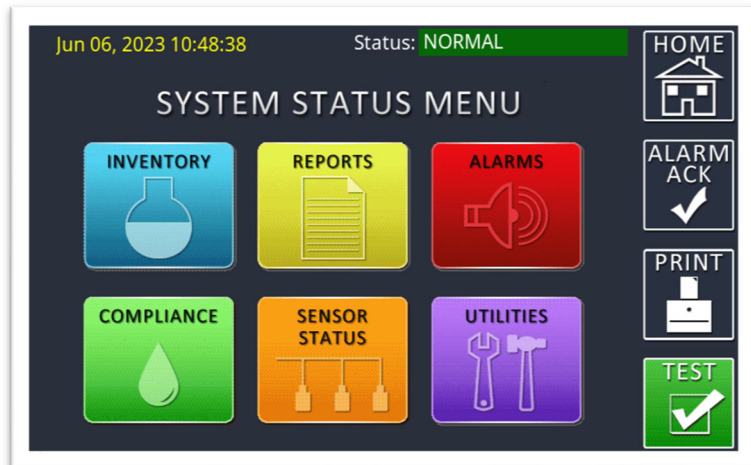

Figure 1.1
(See Figure 1.1)
**Note:** Figure 1.1 is the factory-default Home Screen.